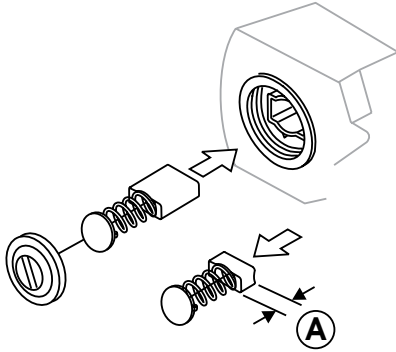

Figure 8. Brush Length
2. Inspect brushes frequently and replace when they become worn to a length of 3/8". See Length A in Figure 8.